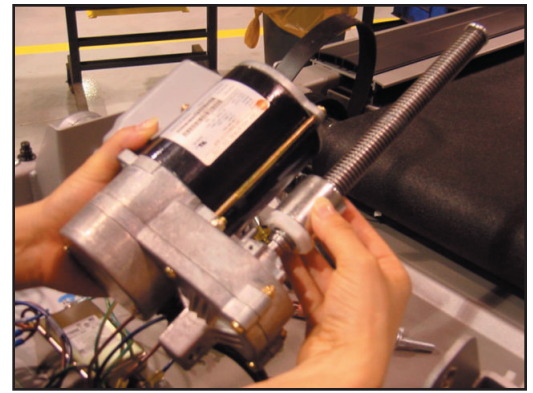

Figure 7
- 3.4 When calibration is complete. Adjust the Grade nut to show 2-3 threads on the bottom of the shaft (see Figure 7).